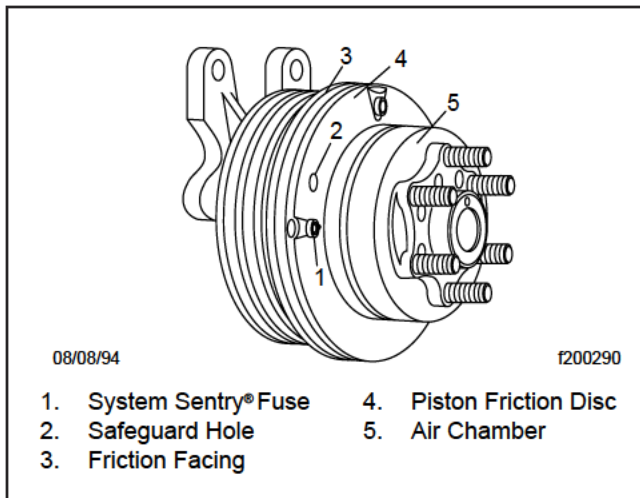

Fig 2, Horton Advantage Fan Clutch
6. Check for wear on the friction facing. See **Fig. 2**. Replace the friction facing if it is worn to a 1/16-inch (1.6-mm) thickness or less. Also check the facing for signs of oil contamination or burn marks. If evidence of oil or burn marks are found, replace the friction facing.